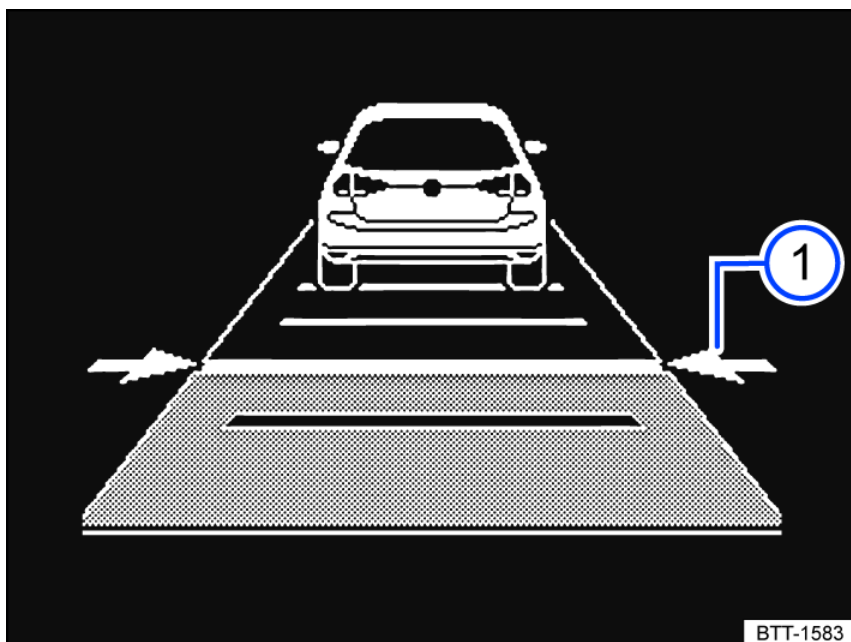

Fig. 114 In the instrument cluster display: set distance ① (schematic diagram, ACC is regulating).
The instrument cluster display shows the selected level fig. 114①. Heed the country-specific regulations for minimum distance.